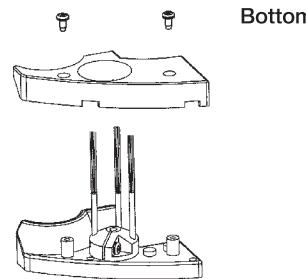

Fig. 1
- The Cleaner may be charged directly by the charger (as the Fig.2 shows) as well as by Auto Charging Base Plate (as Fig.1 shows). If the battery is about to run out, the indicator will turn red and the Cleaner will automatically stop cleaning and seek the charging base plate for charging.
- For charging with Auto Charging Base Plate, the plug of charger should be inserted into the DC socket at the back of the Base Plate (as the Fig.1). Meanwhile, the screen on the Base Plate will display the time, etc.
- Press the Clock key to adjust the time of clock as per the Fig.1.
1. Screw out two screws as per Fig.1.